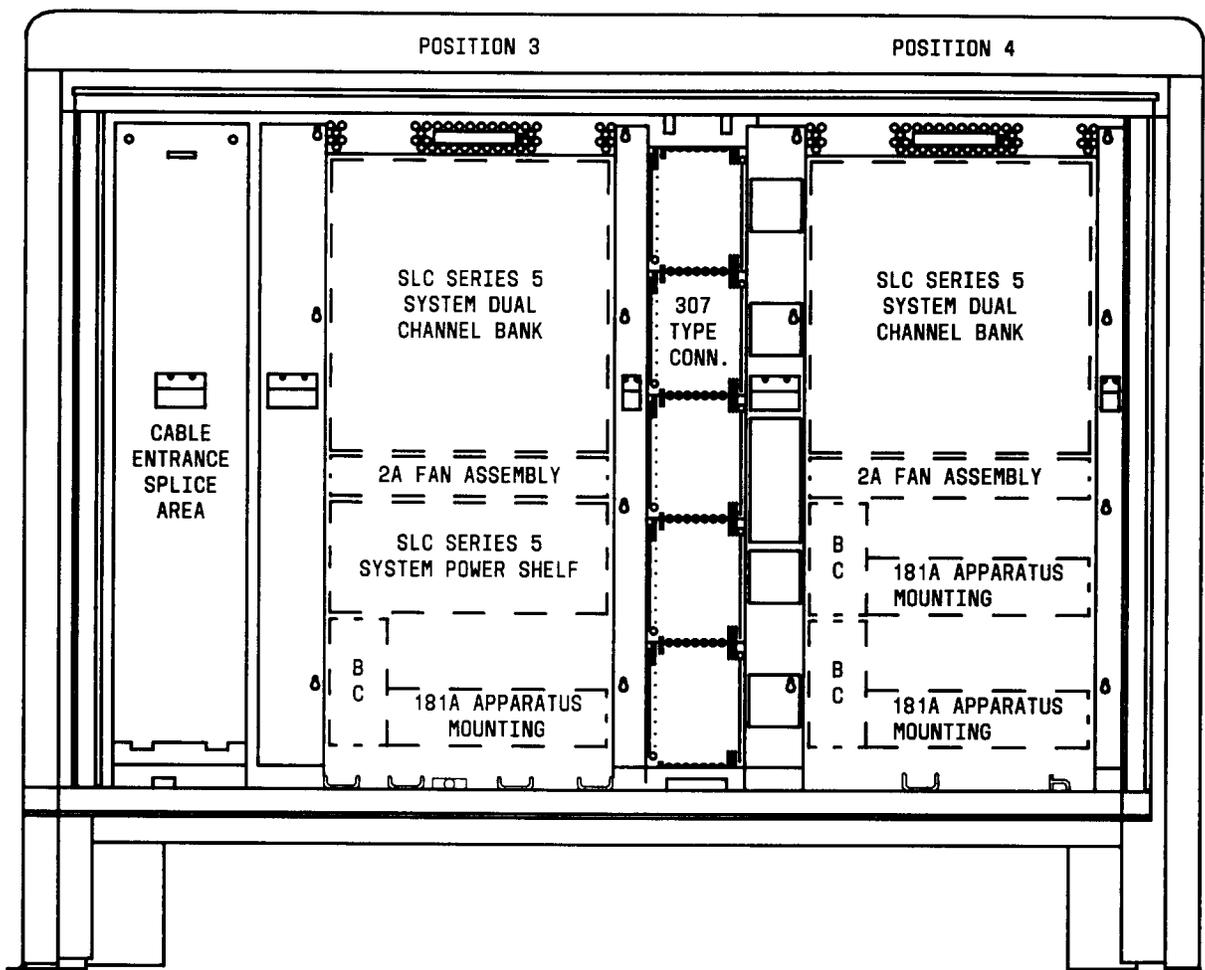

Fig. 3—No. 2 Side, Phase 0 80C Cabinet and Phase 1 80D Cabinet
9. Verify that no SLC Series 5 carrier system plug-in units are installed in dual bank assembly being equipped (Figure 3). Remove any units that are installed.